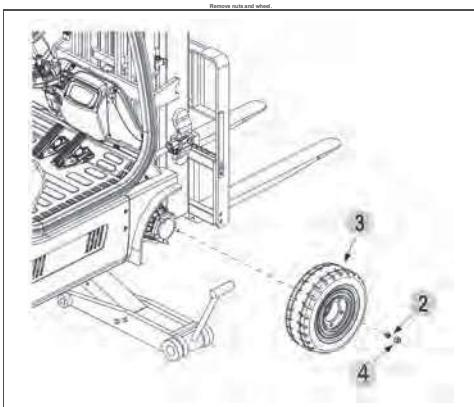

Figure 7-1 Drive Wheel Removal
4. Remove the 5 nut covers (4, Figure 7-1).
5. Remove the 5 nuts (2).
6. Carefully remove the drive wheel (3).